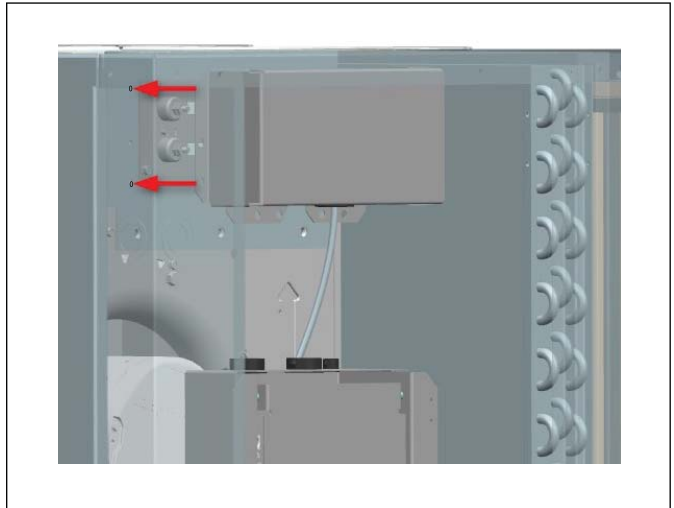

Figure 27
- Line the element cover with the holes on the heating collar and screw in (figure 27).